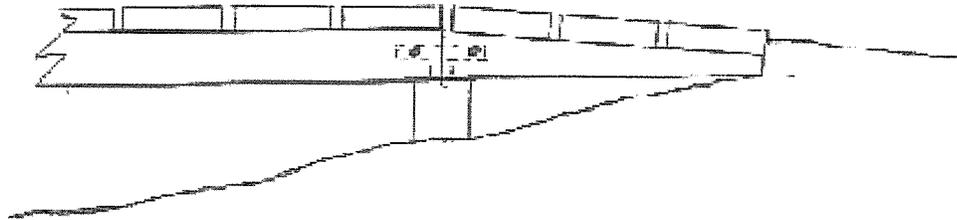

Figure 11 – Ramp Detail
**Ramps** – The final step in installing a boardwalk is the addition of ramps at each end to facilitate access whether on foot, cross-country skis, or mountain bike. Earlier boardwalks had high ends, which made it difficult if on skis and bicycle cranks would often scar the first plank. The ramp stringers are tapered and bolted to the Simpson “T” ties as shown in Figure 11.